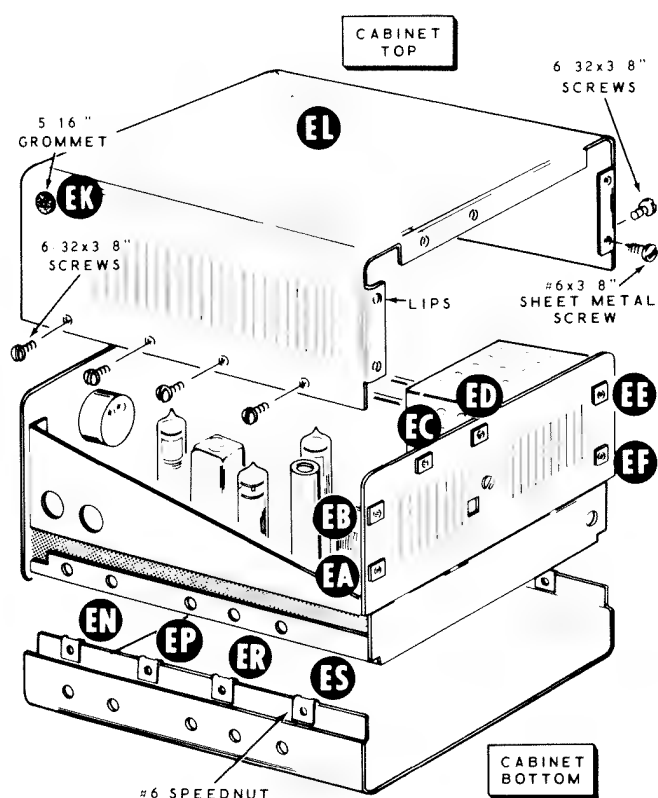

Figure 1-9
Refer to Figure 1-9 for the following steps.
2. Remove screws EA through EF (see Figure 1-9).